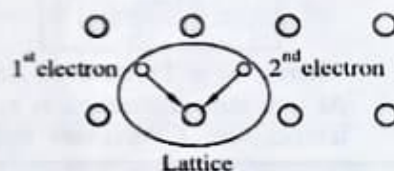

FIG. 5.5
- The deformation product a region of increased positive charge. Thus is another electron (2nd) moves through this region as shown in Fig. 5.5. It will be attracted by the greater concentration of positive charge and hence the energy of the 2nd electron is lowered.